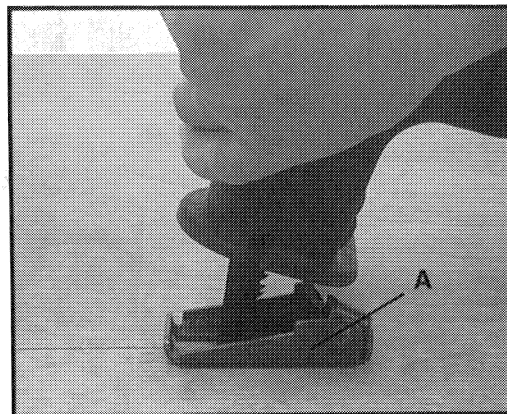

Fig. 8
The shoe (A) Fig. 8, serves as a rest while making a cut. It is pivoted so the saw may be gradually raised to a position perpendicular to the work as the saw is moved toward the operator.